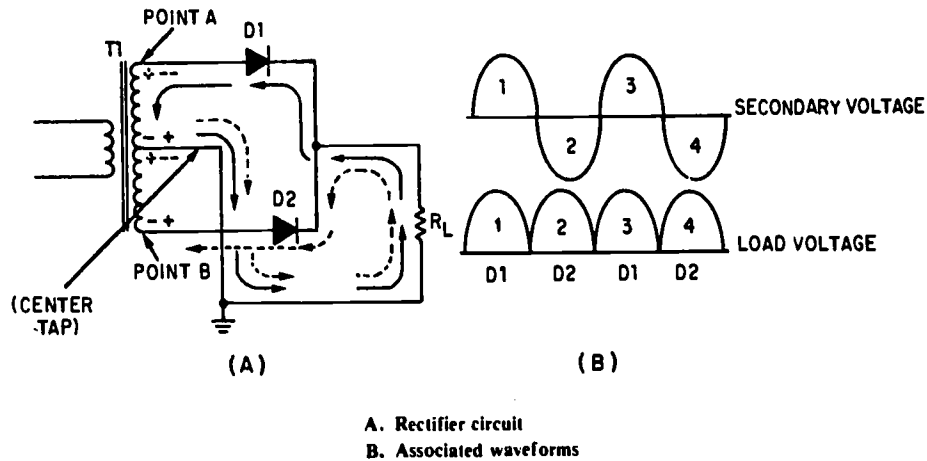

Fig 4-6. Practical full-wave rectifier.
A practical full-wave rectifier. A practical full-wave rectifier circuit is shown in view (A) of figure 4-6. It uses two diodes (D1 and D2) and a center-tapped transformer (T1). When the center tap is grounded, the voltages at the opposite ends of the secondary windings are 180 degrees out of phase with each other. Thus, when the voltage at point A is positive with respect to ground, the voltage at point B is negative with respect to ground. Let's examine the operation of the circuit during one complete cycle.